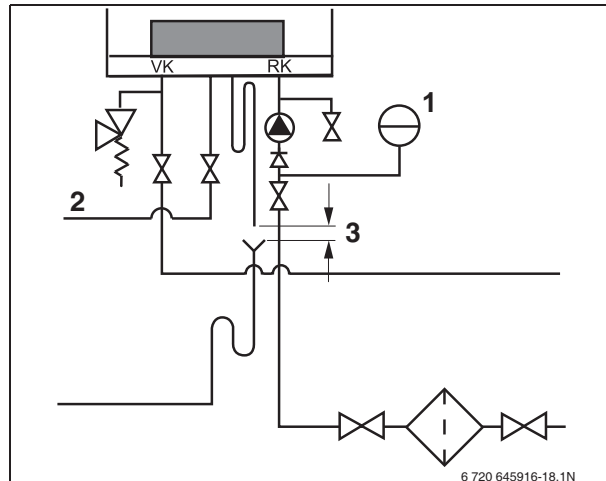

Fig. 18 Connecting the expansion vessel in a single-boiler system
- Connect the expansion tank to the boiler return. If a check valve is available: connect the expansion vessel to the CH-side of the check valve in the return circuit (fig. 18, [1]).